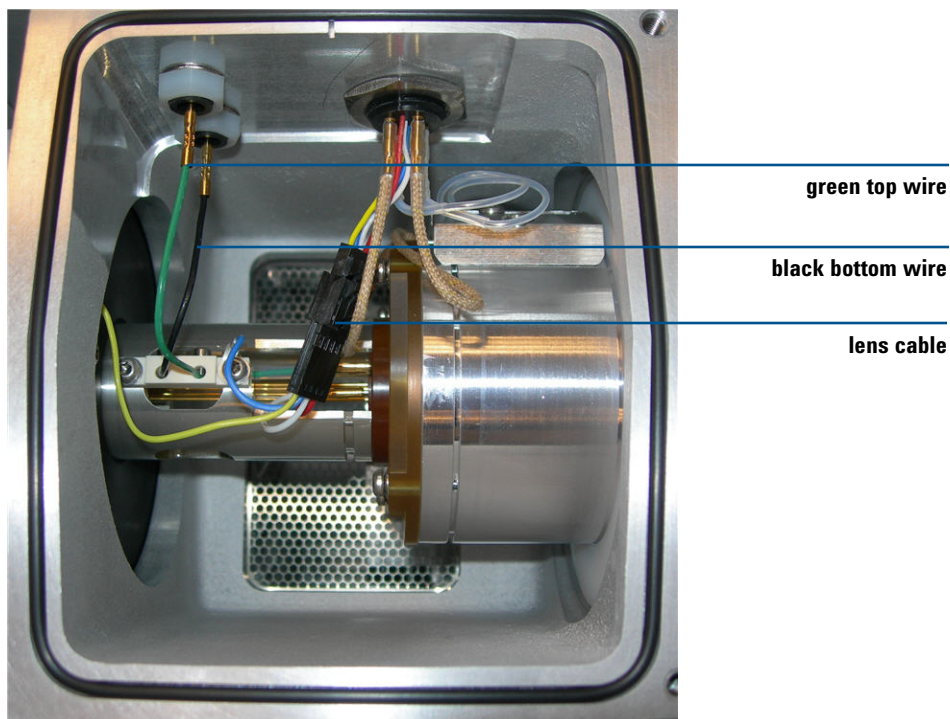

Figure 69 Optics assembly
- 6 Use your finger to push on the **skimmer spacer** to get the **ion optics** to pop out of the instrument. Be careful to catch it so it doesn't fall on the floor. See Figure 69.